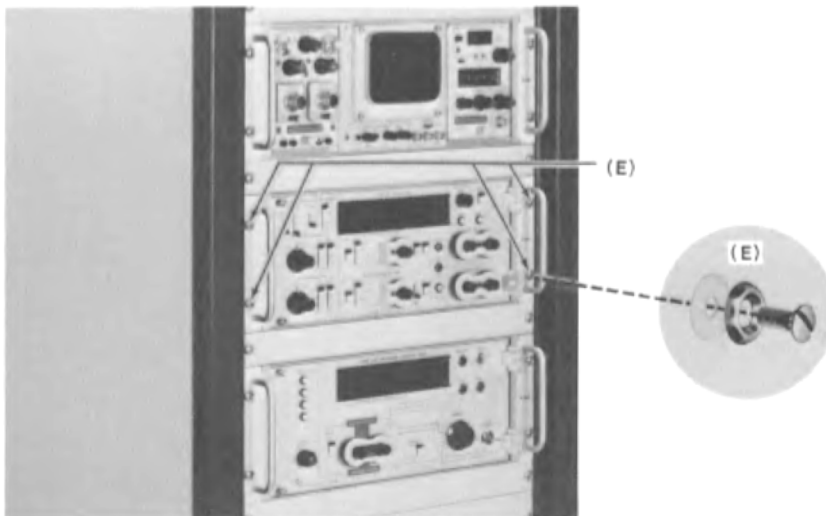

Fig. 10-7. Insertion and removal of a rackmount instrument after the slide-out tracks have been installed.
5. Referring to Fig. 10-7, insert the instrument into the rack. Do not connect the power cord or interconnecting cables yet and do not install the securing screws.
5. Push the instrument all the way into the rack again and install one securing screw through each handle bracket; using a finishing washer and a plastic washer with each securing screw as shown in Fig. 10-7. If the front rails are not tapped for the 10-32 securing screws, some other means of securing the instrument into the rack must be provided.
7. Secure the handle brackets to the front rails of the rack with the four securing screws (Fig. 10-7).
After the initial installation and adjustment of the slide-out tracks, the instrument may be removed or re-inserted in the rack by following the instructions given in Fig. 10-7. Under normal circumstances, no further adjustments are required.